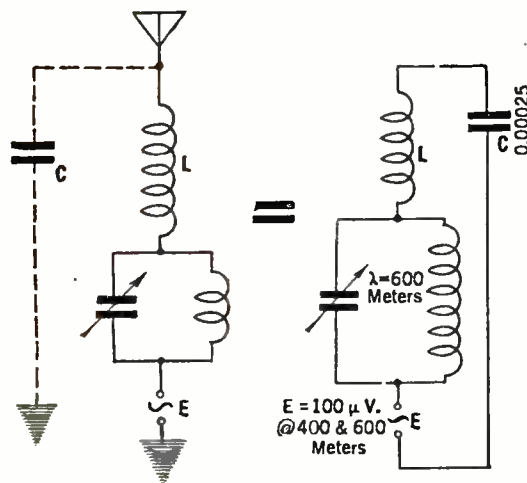

FIG. 4
4. Suppose in series with the antenna is connected a circuit like that of Fig. 1 and tuned to 600 meters. Assume the resistance of the coil is 10 ohms. Calculate the impedance this circuit would offer to the 400-meter and the 600-meter signals. Then calculate roughly the ratio of wanted to unwanted voltage across the inductance L . The complete antenna system is shown in Fig. 4. In calculating the impedance neglect the effect of L and C .